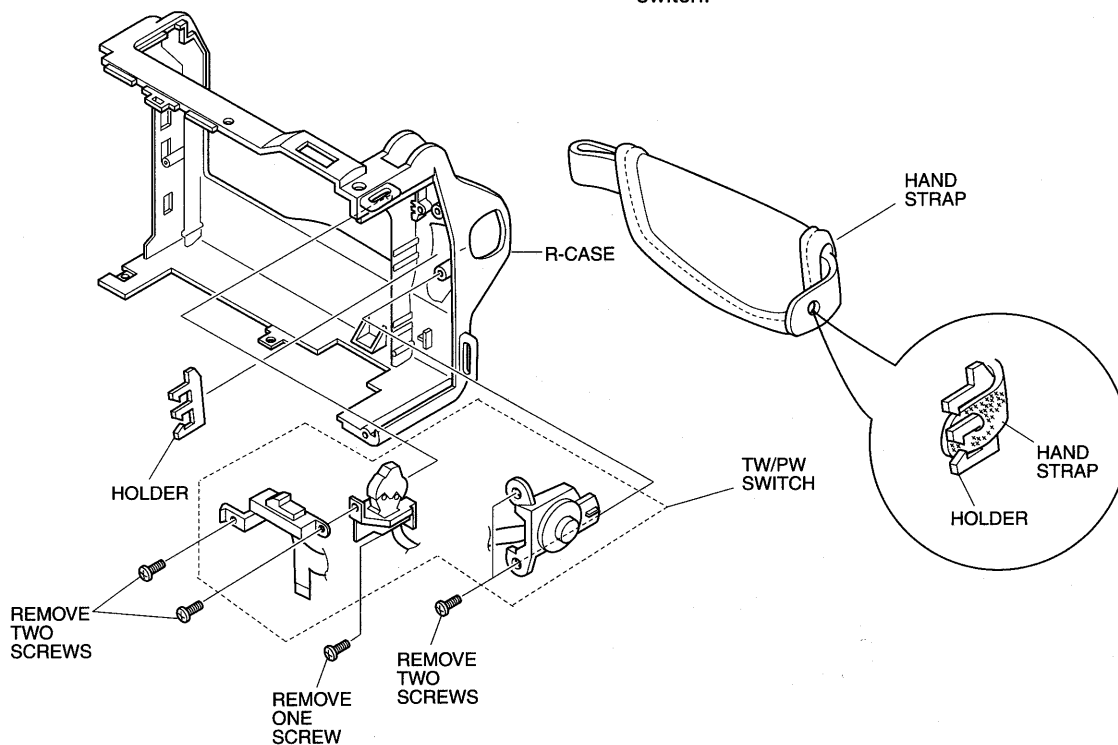

Fig. 2-8
2.8 Hand Strap, TW/PW Switch, R-Case (Fig. 2-8)